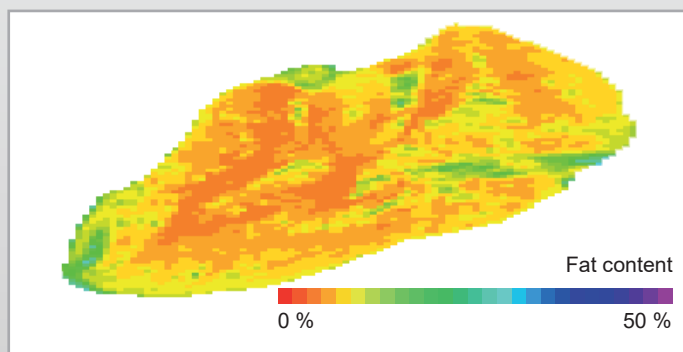

figure 4: Example for application in food analysis, determination of fat content in meat
- Quality control of food and feed (determination of fat (figure 4), carbohydrate protein or water content)